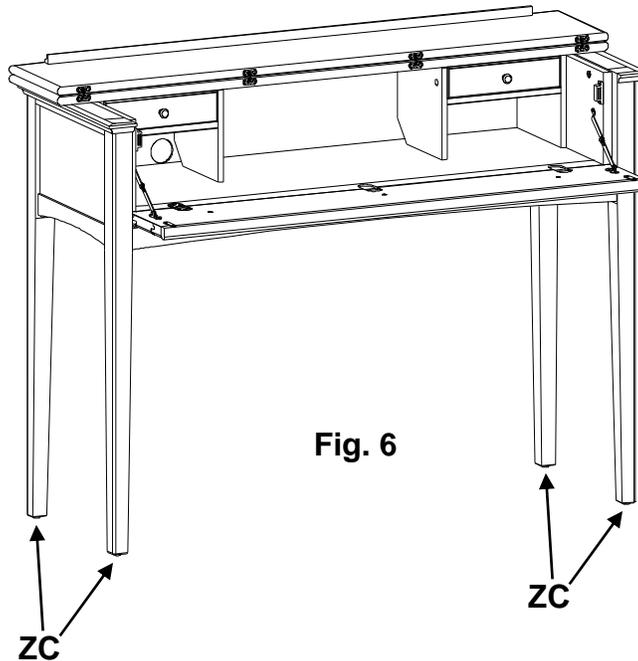

Fig. 6
6. Insert the Hutch Drawers (H). Place the console at its final destination. Rotate the Adjustable Glides (ZC) found at the bottom of each leg until the unit is level. See Figure 6.